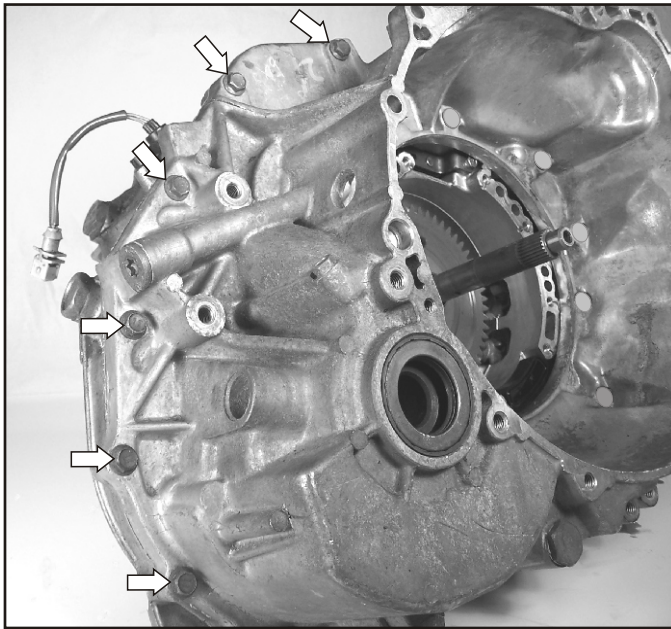

Figure 46
6. Remove the 6 , 12mm headed bellhousing to main case bolts as shown in figure 46. **Note: Bolts are 30mm long.**